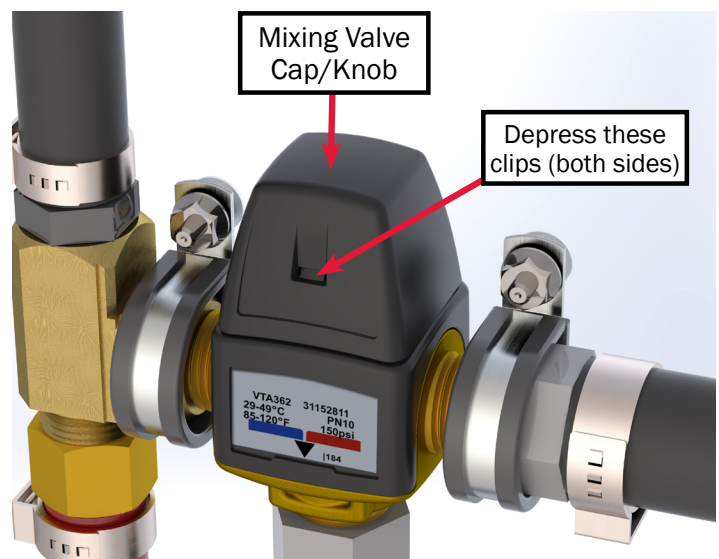

Figure 16
- A screwdriver can be used to depress the clips on the cap during removal. (Figure 16)